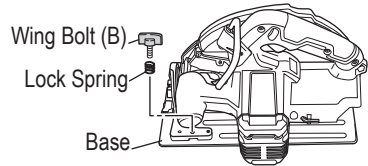

Fig. 26
- Attaching the guide (Sold separately) (Fig. 26, 27)